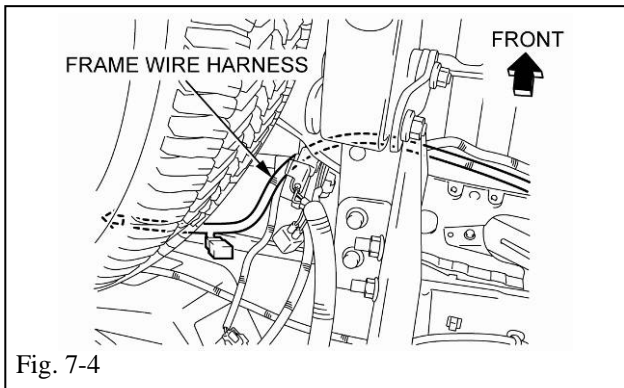

Fig. 7-4
- (d) Route the frame wire harness as shown. (Fig. 7-4)